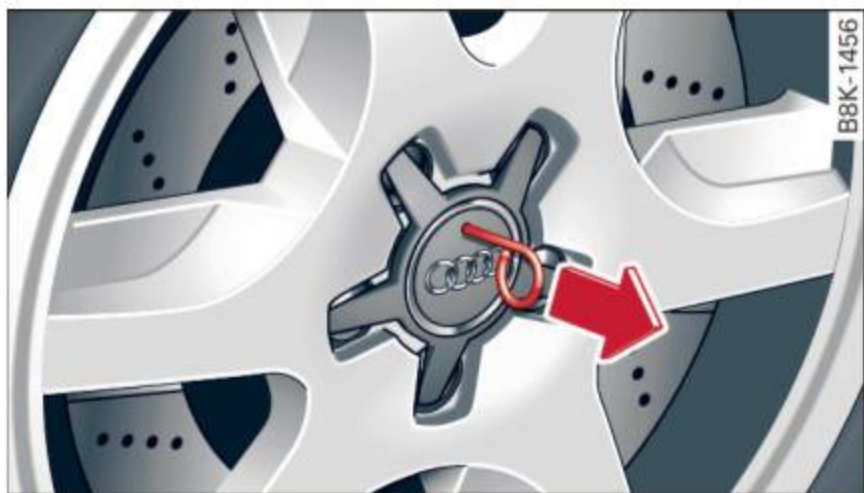

Fig. 174 Changing a wheel: removing the wheel cover
- ▶ Pull off the **decorative wheel cover** ⇒ *fig. 174*.